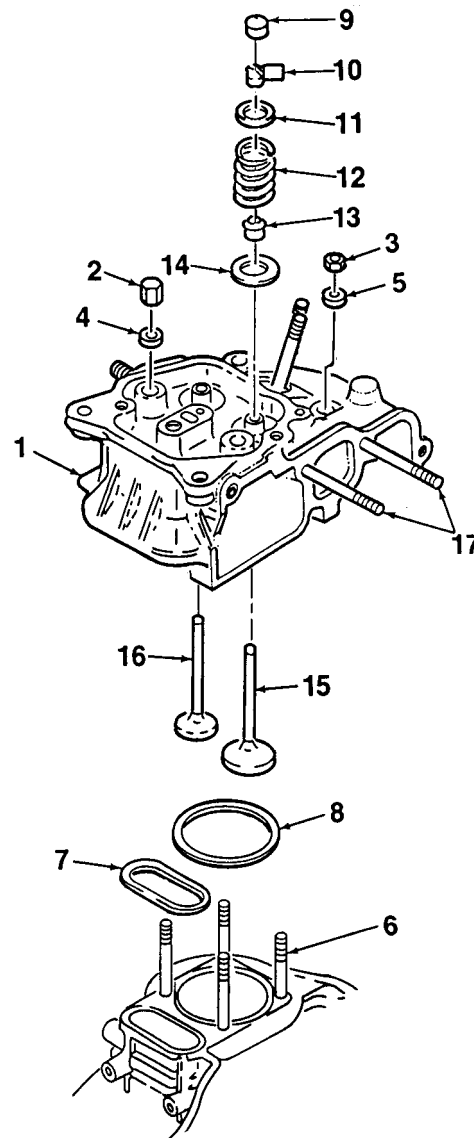

Figure 5-21. Cylinder Head Installation
1. Install air intake pipe studs (17, Figure 5-21) into cylinder head (1).
2. Lubricate the stems of exhaust valve (16) and inlet valve (15) with a light coat of lubricating oil. Slide valves into cylinder head (1).
3. Install valve stem seal (13) and washer (14) onto inlet valve (15).
4. Install and compress valve spring (12) using compression tool. Carefully install spring retainer (11). Slowly release hold on compression tool to release spring tension.
5. Install cotter assembly (10) and valve cap (9).
6. Repeat steps 3 through 5 for exhaust valve (16).
7. Mate new O-ring (7) and cylinder head gasket (8) to crankcase.
8. Carefully slide cylinder head (1) over studs (6) and mate to crankcase.